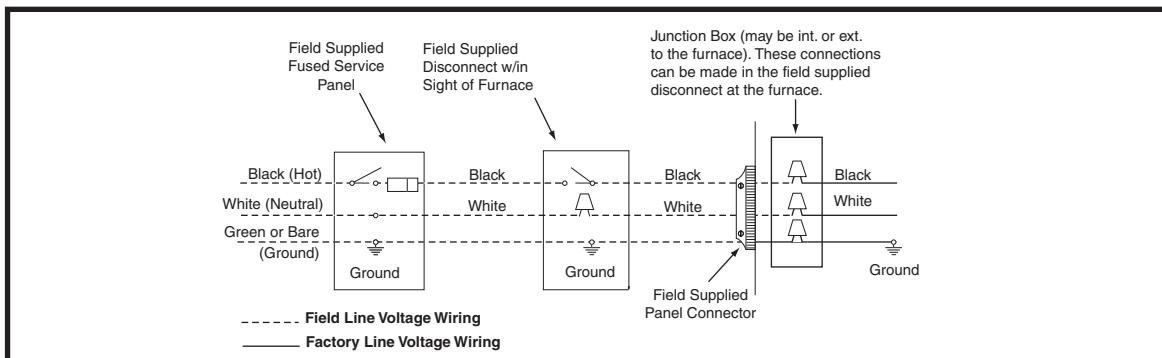

Figure 26. Line Voltage Field Wiring
NOTE: Proper line voltage polarity must be maintained in order for the control system to operate correctly. Verify that the incoming neutral line is connected to the white wire and the incoming "hot" line is connected to the black wire in the furnace junction box. The furnace will not operate unless polarity and ground are properly connected. See Figure 26.
4. The roll-out and vent safety manual reset switches are closed. If necessary, press the red button to reset a switch. See Figure 26 for location. DO NOT install a jumper wire across a switch to defeat its function. If a switch reopens on start-up, DO NOT reset the switch without identifying and correcting the fault condition which caused the switch to trip.